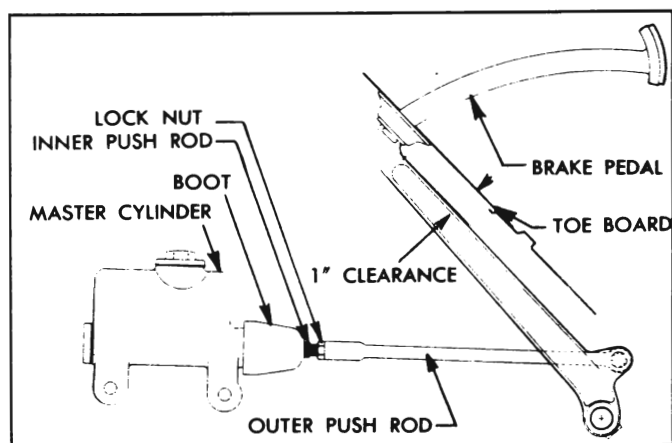

Figure 8-7—Brake Pedal Clearance Adjustment
2. Depress pedal slightly and then return it against the stop, which will be indicated by a metallic click. At this point, the clearance between brake pedal and toeboard should be 1". See figure 8-7.